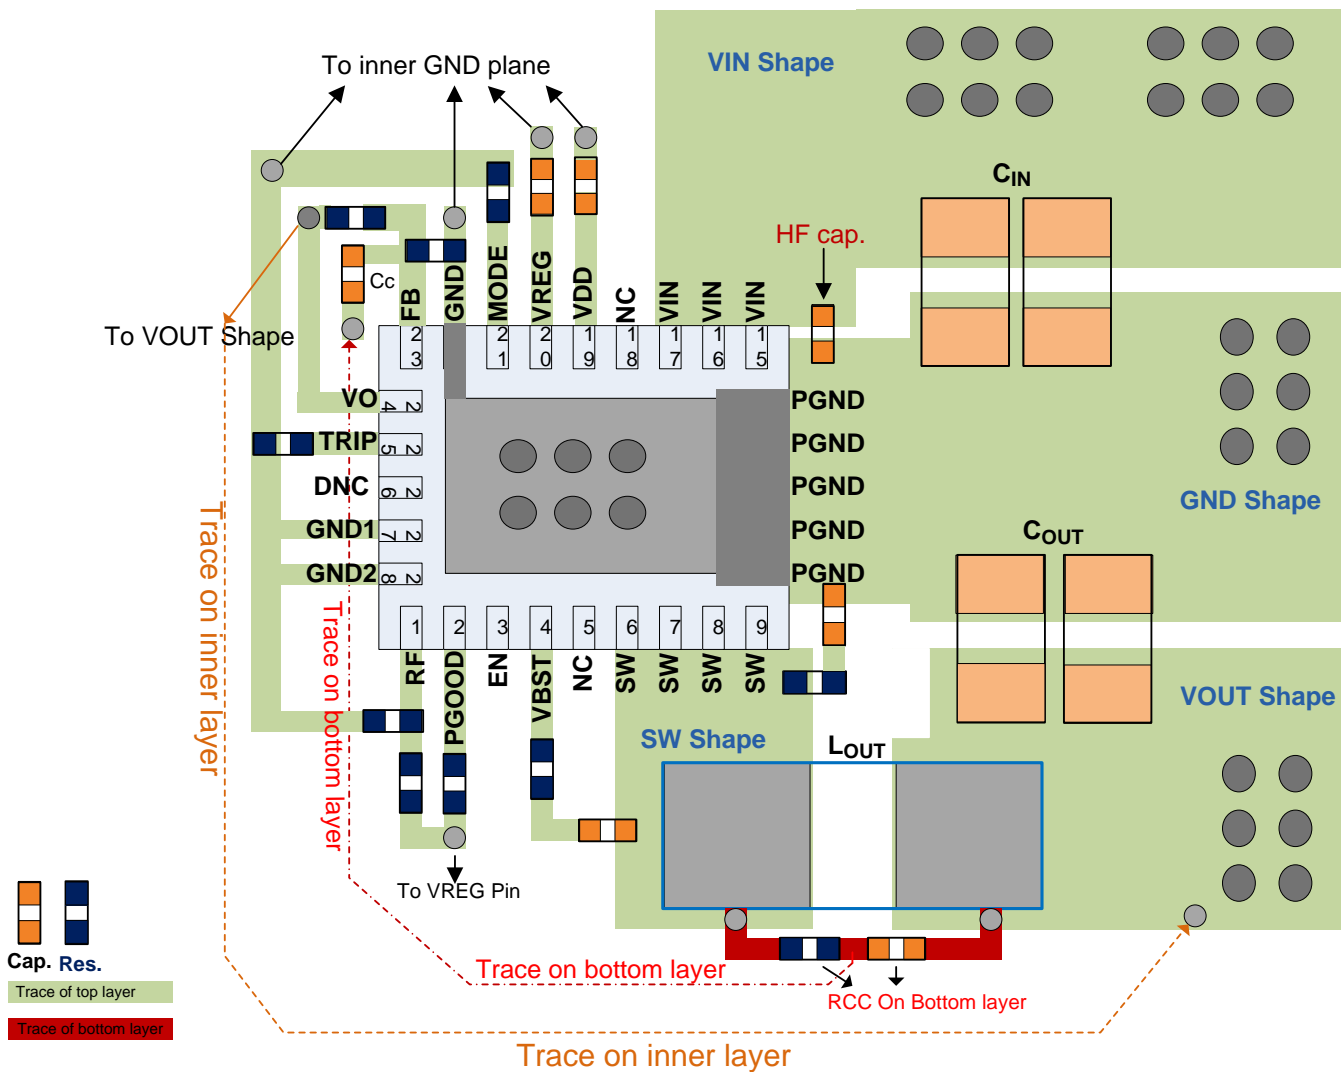

图 50. Layout Recommendation
- See Figure 50 for the layout recommendation.